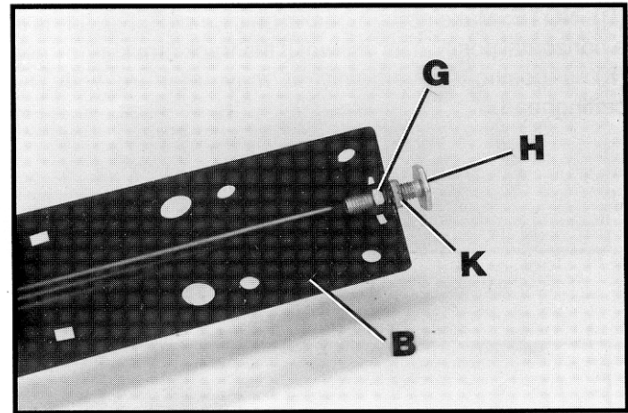

Fig. 17
5. Assemble one 3/8-16 hex nut (K) Fig. 17, onto each of the four leveling screws (H) so that the hex nuts (K) are at least halfway onto the threads of the leveling screws (H).
6. Insert four leveling screws (H) Fig. 17, into the holes at the bottom of legs (B) and fasten with four additional hex nuts (G).
7. Stand the saw in an upright position and level the saw to adjust to the floor surface using the leveling screws (H). Lock the leveling screws (H) Fig. 17, in position with hex nuts (G) and (K).